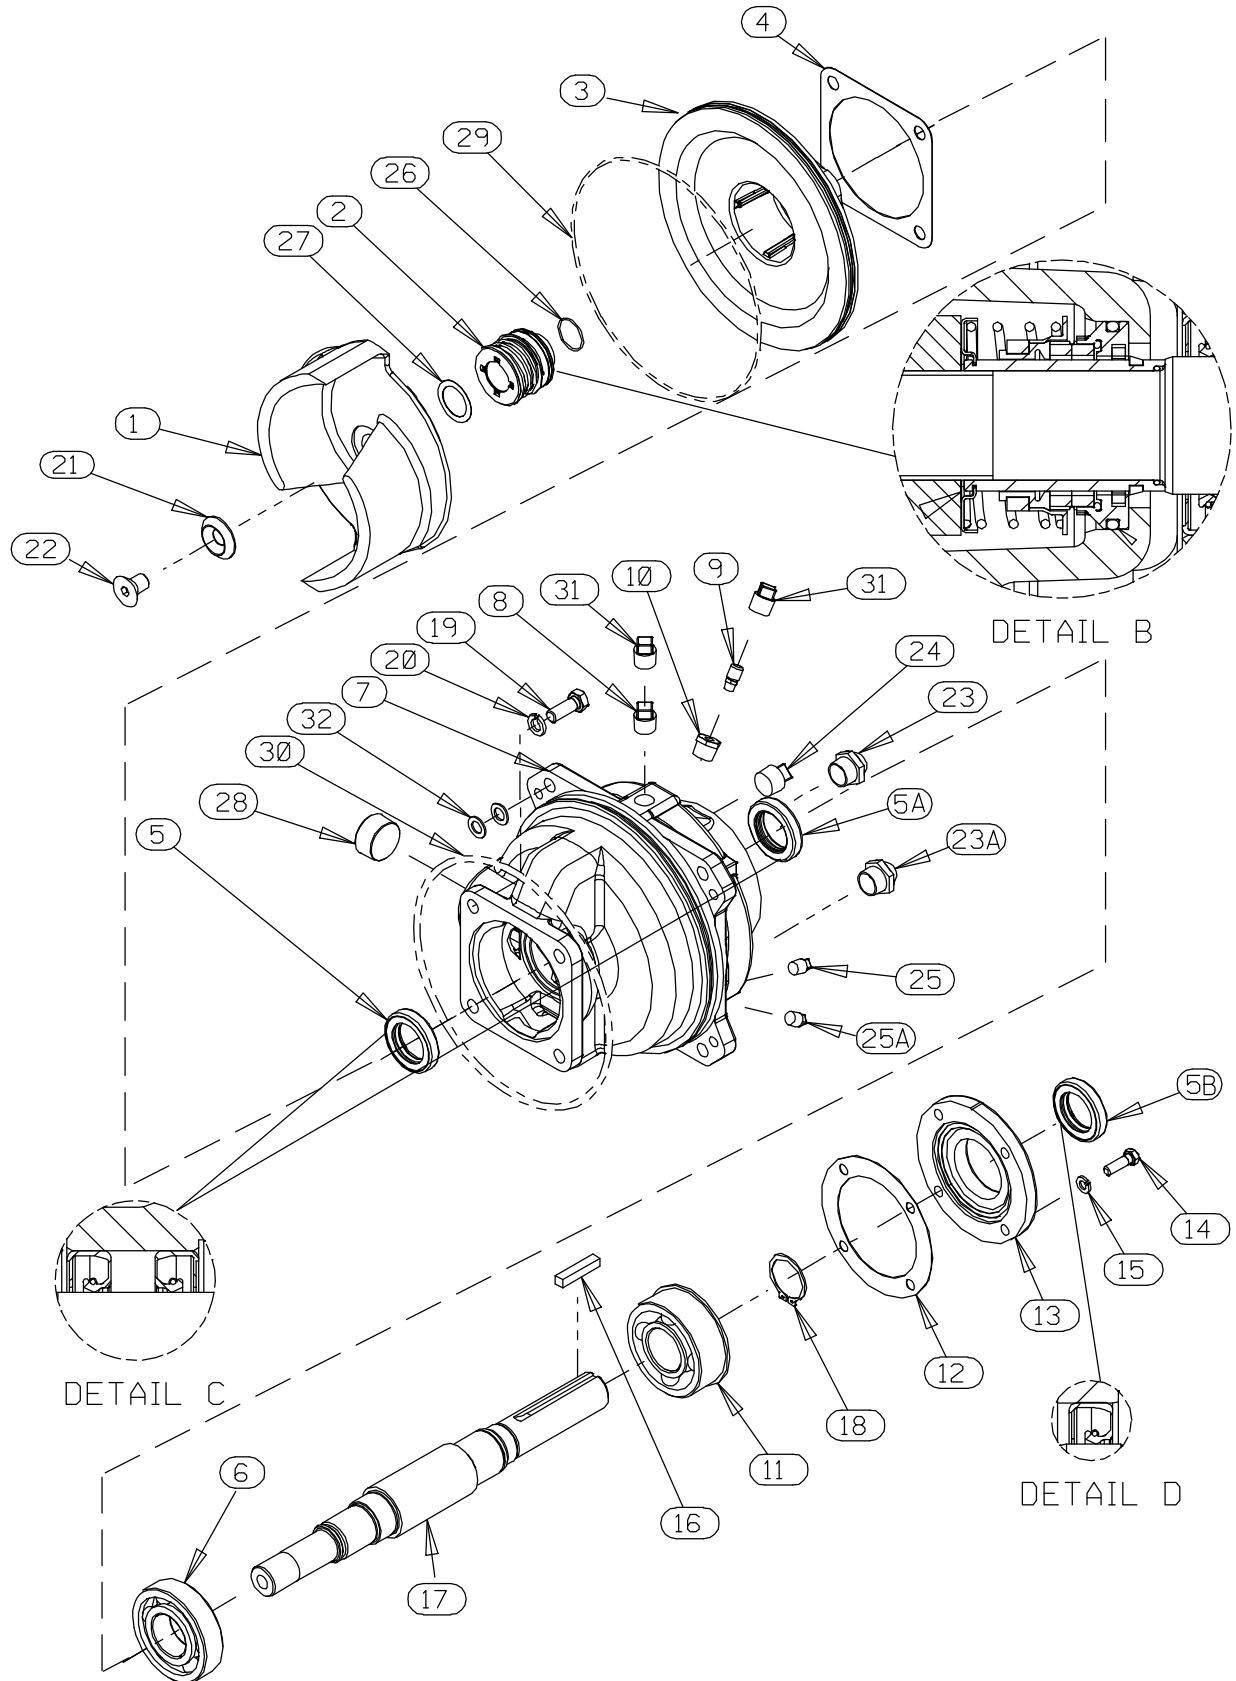

Figure 2. 44163-274 Repair Rotating Assembly
(Figure 2)
*To install the tool, remove the vented plug (8, Figure 2) from the bearing housing and screw the longest length of pipe into the vent hole until fully engaged. Install the tee, and screw the handles into the tee. Use caution when lifting the rotating assembly to avoid injury to personnel or damage to the assembly.*
#### (Figure 2)